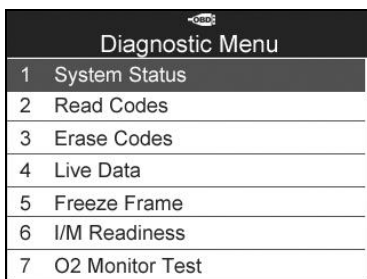

Figure 6.3
- 1) From **Diagnostic Menu**, use the **UP/DOWN** scroll button to select **Read Codes** and press the **Y** button. (Figure 6.3)
- 1) Use the **UP/DOWN** scroll buttons to select **Erase Codes** from **Diagnostics Menu** and press the **Y** button. (Figure 6.3)
- 1) To view live data, use the **UP/DOWN** scroll button to select **Live Data** from **Diagnostic Menu** and press the **Y** button. (Figure 6.3)
- 1) To view freeze frame data, use the **UP/DOWN** scroll button to select **Freeze Frame** from **Diagnostic Menu** and press the **Y** button. (Figure 6.3)
- 1) Use the **UP/DOWN** scroll button to select **I/M Readiness** from **Diagnostic Menu** and press the **Y** button. (Figure 6.3)
- 1) Use the **UP/DOWN** scroll button to select **O2 Monitor Test** from **Diagnostic Menu** and press the **Y** button. (Figure 6.3)